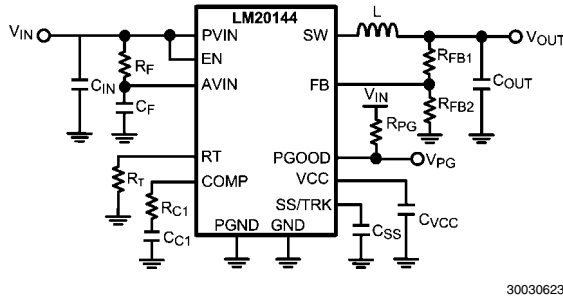

FIGURE 2. Typical Application Circuit
The LM20144 switching regulator features all of the functions necessary to implement an efficient low voltage buck regulator using a minimum number of external components. This easy to use regulator features two integrated switches and is capable of supplying up to 4A of continuous output current. The regulator utilizes peak current mode control with nonlinear slope compensation to optimize stability and transient response over the entire output voltage range. Peak current mode control also provides inherent line feed-forward, cycle-by-cycle current limiting and easy loop compensation. The switching frequency can be varied from 500 kHz to 1.5 MHz. The device can operate at high switching frequency allowing use of a small inductor while still achieving high efficiency. The precision internal voltage reference allows the output to be set as low as 0.8V. Fault protection features include: current limiting, thermal shutdown, over voltage protection, and shutdown capability. The device is available in the eTSSOP-16 package featuring an exposed pad to aid thermal dissipation. The LM20144 can be used in numerous applications to efficiently step-down from a 5V or 3.3V bus. The typical application circuit for the LM20144 is shown in *Figure 2* in the design guide.
This section walks the designer through the steps necessary to select the external components to build a fully functional power supply. As with any DC-DC converter numerous trade-offs are possible to optimize the design for efficiency, size, or performance. These will be taken into account and highlighted throughout this discussion. To facilitate component selection discussions the circuit shown in *Figure 2* below may be used as a reference. Unless otherwise indicated all formulas assume units of amps (A) for current, farads (F) for capacitance, henries (H) for inductance and volts (V) for voltages.
To prevent high frequency noise spikes from disturbing the sensitive analog circuitry connected to the AVIN and AGND pins, a high frequency RC filter is required between PVIN and AVIN. These components are shown in Figure 2. as C_F and R_F . The required value for R_F is 1Ω. C_F must be used. Recommended value of C_F is 1.0 μF. The filter capacitor, C_F should be placed as close to the IC as possible with a direct connection from AVIN to AGND. A good quality X5R or X7R ceramic capacitor should be used for C_F .